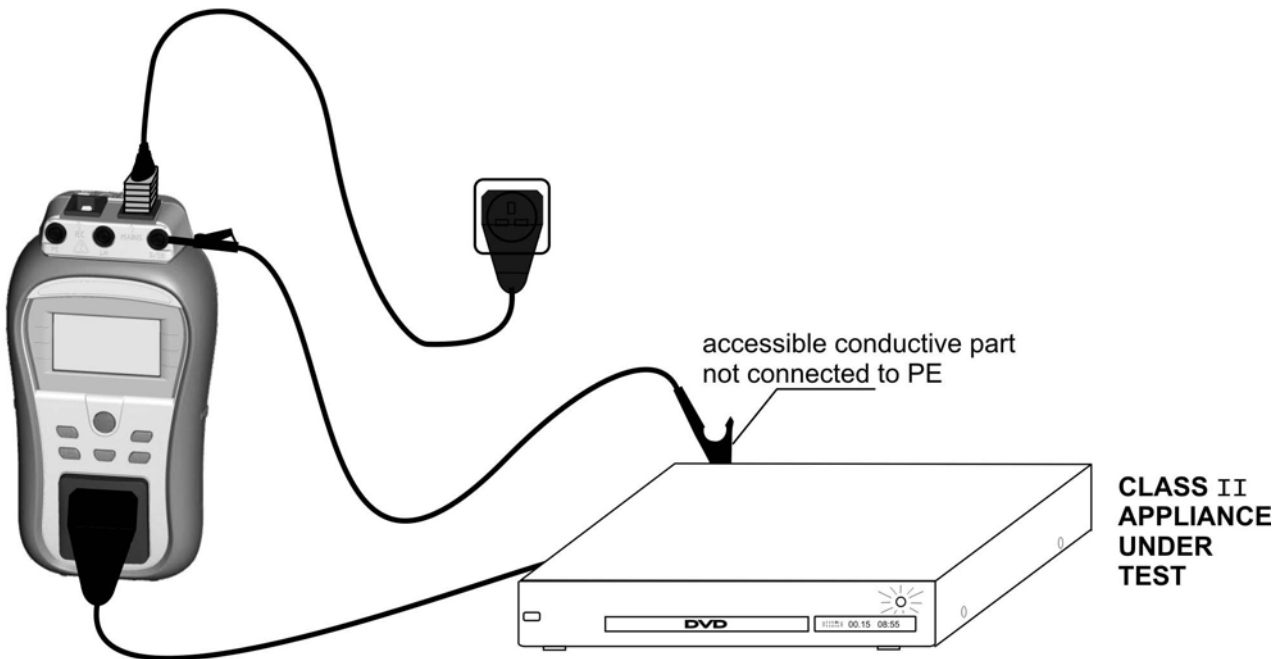
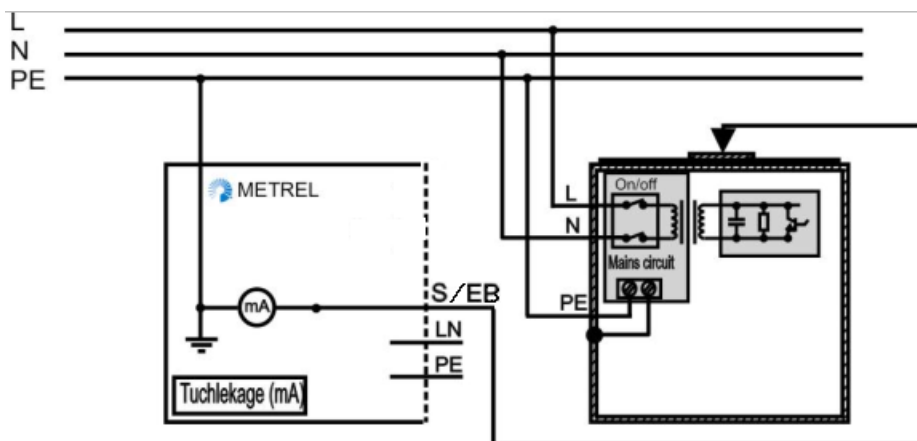

Figure 5.31: Measurement of touch leakage current
Figure 5.32: Measurement of touch leakage current on a fixed installed DUT
- › Connect device under test to the instrument (see **Figure 5.31** and **Figure 5.32**).